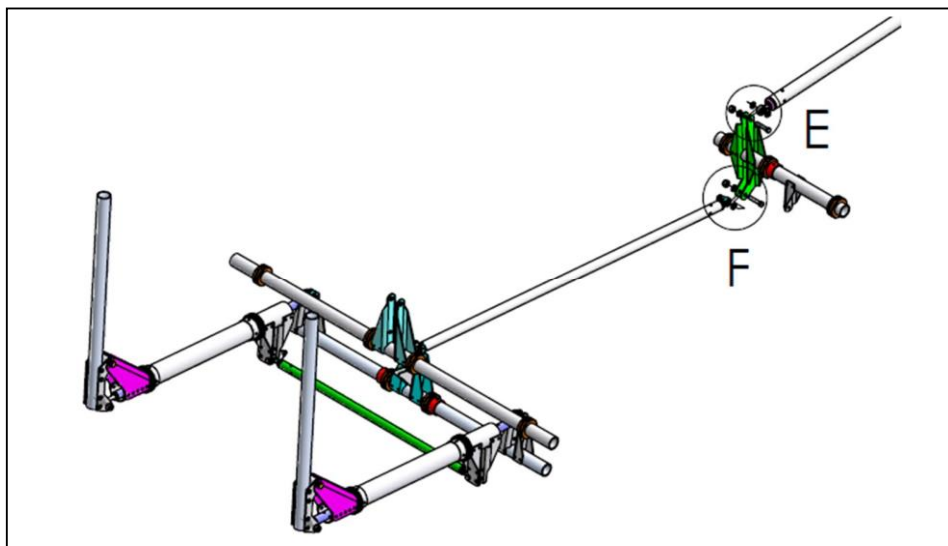

Figure 26
- Step 8. Next, the eyebolts seen in Detail E and F in Figure 26 will need to be inspected and replaced if found to be of *noncompliant*. To access these in the Sling 4 TS*i*, remove the rear seats. To do this follow the instructions in the applicable MAM shown in the table below: